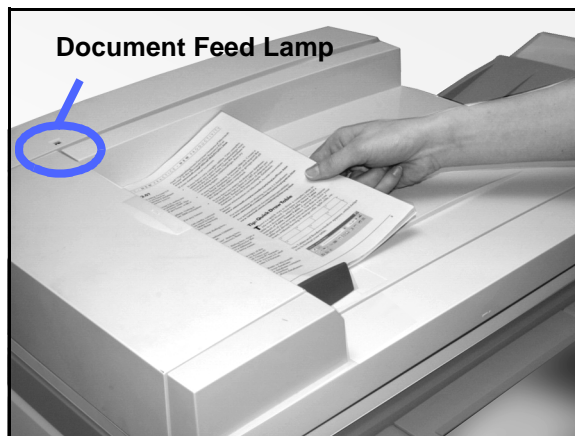

Figure 21: Placing a document in the DADF Feeder Tray
- If you have a Duplex Automatic Document Feeder, place the document face up into the DADF Tray, as in Figure 21. The Document Feed Lamp lights when the document is in the correct position. Ensure that the paper guide is against the original document.